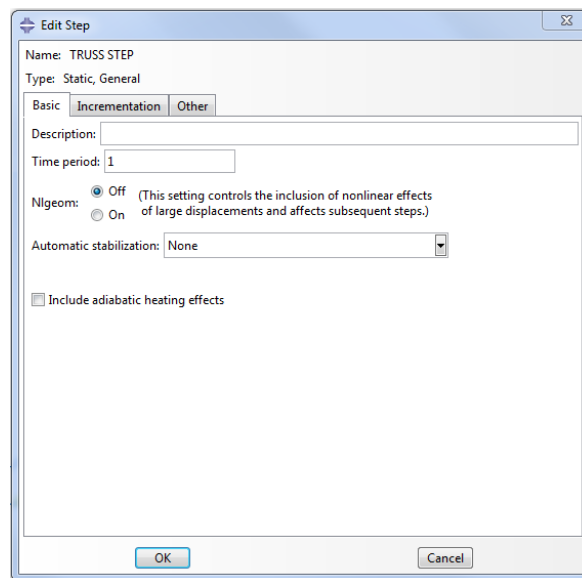

Figure 21. Edit Step Dialog Box
- Click **Continue...**, and the Edit Step dialog box will immediately appear (Figure 21).